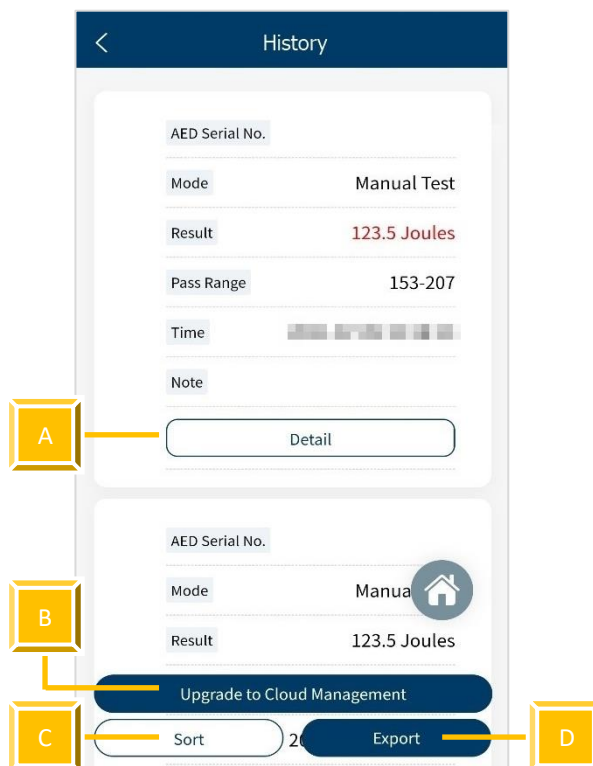

Figure 24: History Interface
1. Click History on the home screen and users will see Figure 24 on the screen.